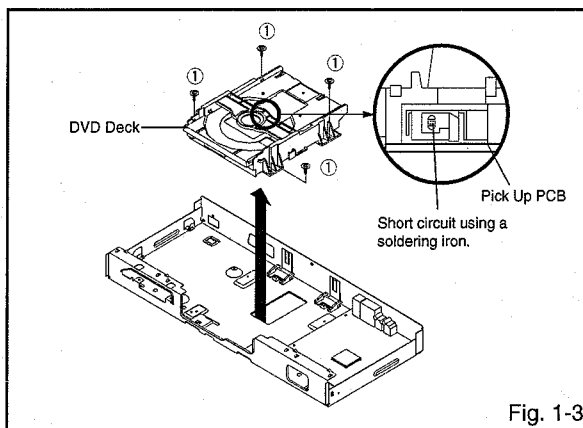

Fig. 1-3
#### 1-3: DVD DECK (Refer to Fig. 1-3)
1. Short circuit the position shown in Fig. 1-3 using a soldering iron. If you remove the DVD Deck with no soldering, the Laser may be damaged.
3. Remove the 4 screws ①.